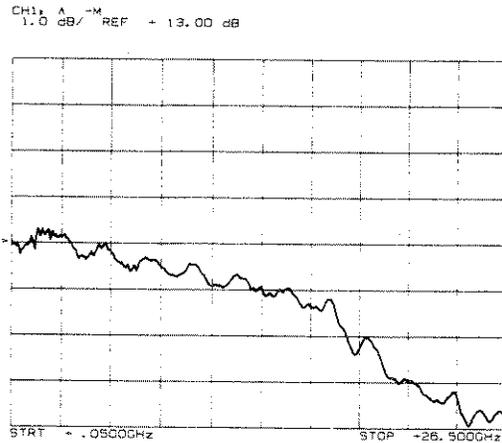

Figure 5-34. Trace Before Adjustments
29. On the sweep oscillator/plug-in adjust the overall slope adjust, A5R48 (SLP), for the flattest display, as shown on the network analyzer. See figure 5-34.